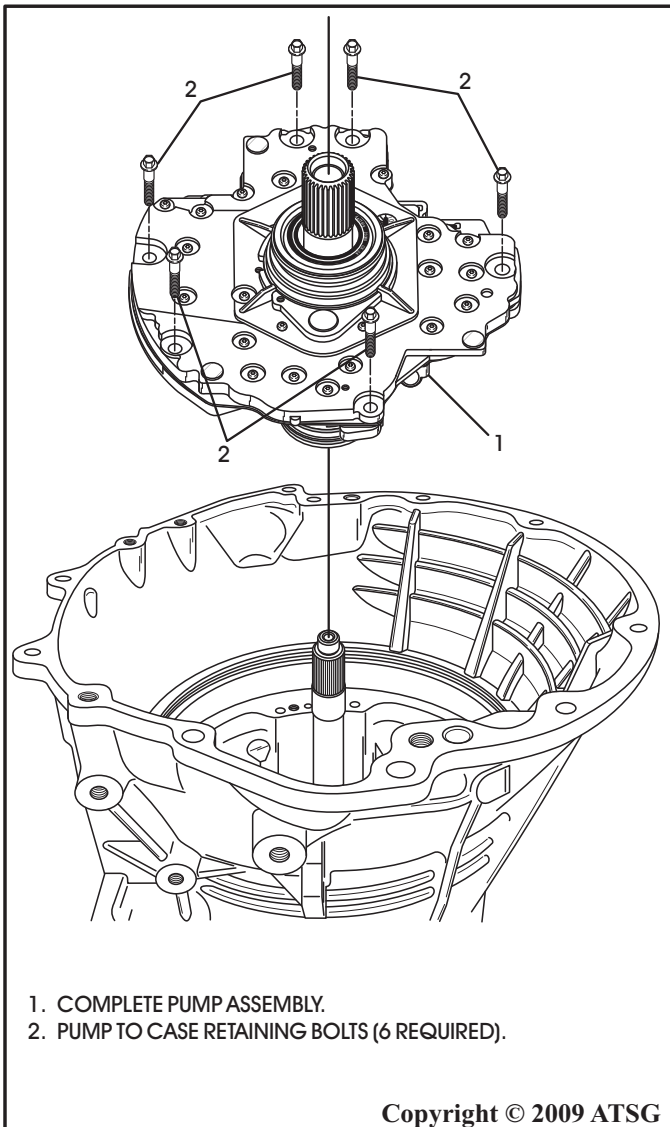

Figure 121
43. Install the pre-assembled pump assembly into the transmission case, as shown in Figure 121, and torque the six bolts to 28 Nm (250 in lbs).